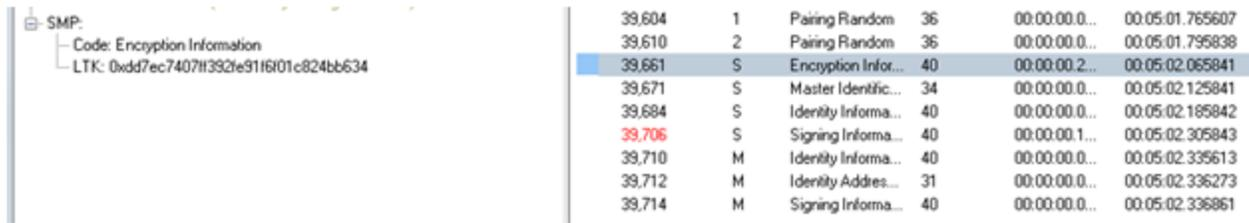

Figure 11 - SMP Key Distribution Frames
The Link Layer (LL) protocol manages the *Bluetooth* low energy radio transmissions and is involved in starting link encryption. To observe the decoded LL commands, click on the **Frame Display LE LL** tab, search for and select ControlPkt “LL\_ENC\_REQ”. This command should originate with Side 1, the initiator of the encryption link. In Figure 11 Frame# 39,617 is selected in the Summary pane and we see the decoded LE LL frame is display in the **Decoder** pane. Shown in this frame packet is the SKDm that is the Master Session Key Diversifier (SKDmaster). In Frame# 39,623 you will find SKDslave that is combined with SKDmaster to create the Session Key (SK). Both SDKs were created using the LTK. Frame# 39,635 through 39,649 in the **LE LL** tab completes starting of the encryption process. After the slave sends LL\_START\_ENC\_RSP (Frame# 36,649) the *Bluetooth* devices can exchange encrypted data, and the ComProbe sniffing device can also receive and decrypt the encrypted data because the appropriate “key” is provided in the **BPA 600 Datasource** window.